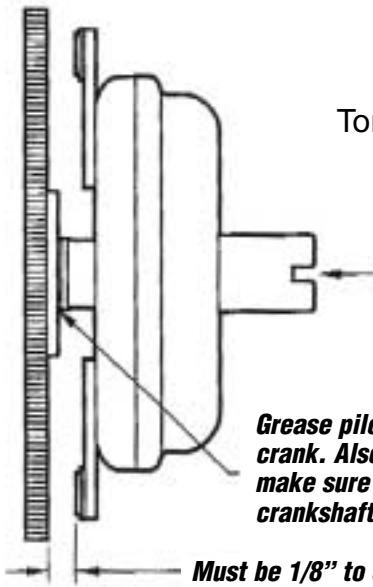

Figure 1
4. With the transmission secured in place slide the torque converter forward against the flexplate a minimum of 1/8" to a maximum of 3/16". (Fig. 1) Spin the torque converter, it should spin freely. If it does not the converter is probably not fully engaged into the front pump. Now bolt the torque converter to the flexplate.